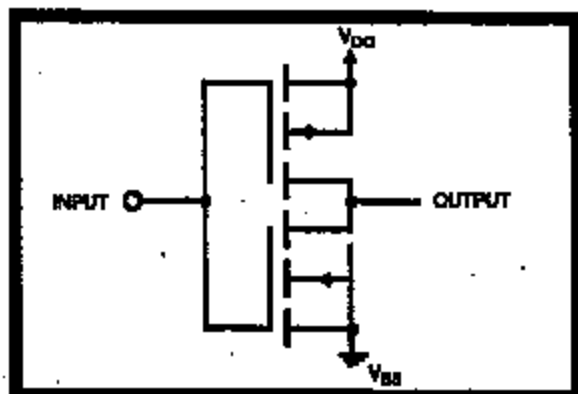

Figure 4 - Typical Output Circuit
Unfortunately, it appears that this packaging method results in the formation of a diode between the n-type Ag-filled epoxy glue layer and the low doped p' substrate, see fig. 4 and 6. Note that diode does not behave like a real Ag-Si Schottky diode. Fig. 6 shows that the diode forward voltage is >0.7V. Given the barrier height for an Ag to p-type silicon metal-semiconductor contact of 0.54 eV at 23°C [2], a good Ag-Si(p-type) Schottky diode should exhibit a much lower forward voltage than observed here. Furthermore, we find that the n-type
Ag-filled glue layer also can act as the emitter of a parasitic NPN transistor (T4 in fig. 4) between the frontside and backside of the die where the p' substrate acts as the base and the deep buried-N (BND) isolation of the V-PNP transistor as collector, see fig. 4. Fig. 6 shows the bipolar gain of this transistor as a function of the emitter current for a small test structure. Despite the very thick base ( $\approx 375 \mu\text{m}$ ), the NPN gain  $h_{FE}$  ranges from  $10^4$  to  $10^3$  at 25°C. Note that the  $h_{FE}$  scales with the collector area; in real circuits  $h_{FE}$  values up to 0.5 have been observed. Note that both the diode and the NPN characteristics are not well controlled as these are influenced by many parameters as e.g. the surface roughness of the backside of the silicon die, the thickness of native oxide layers on the silicon backside, the electron minority carrier lifetime in the p' substrate, the thickness of the epoxy glue, the distribution and concentration of Ag-fillers in the epoxy glue. As a result, a large spread is observed in both the diode (KV) curves, see fig. 6, as well as the NPN current gain ( $h_{FE}$ ) characteristics, see fig. 7, depending on the specific process flow. The fact that the NPN gain in fig. 7 increases with injected current is characteristic for metal-semiconductor junctions where the ratio of minority injection (electrons in this case) increases with current due to the enhancement of the drift-field component, which becomes much larger than the diffusion current [2].
As shown in fig. 4, the parasitic NPN transistor T4 forms in combination with the V-PNP transistor T1 a thyristor between the frontside and the backside of the die. As the parasitic V-PNP has high gain, the thyristor loop gain is larger than 1 and thus latchup can occur.
A typical ISO-CMOS output driver contains one N-channel MOSFET with its source tied to  $V_{SS}$  and one P-channel MOSFET with its source tied to  $V_{DD}$ . The drains of the two transistors are connected together to form the output and the gates are commoned to form the input (Fig. 4). The fabrication of these transistors in close proximity results in the formation of a parasitic SCR connected directly across the power supply rails. When triggered, this SCR presents a low impedance to the power supply causing excessive current to flow. This situation is potentially destructive, resulting in damage to bond wires or metal supply tracks on the die due to localized overheating. The SCR is formed as follows. A vertical NPN transistor results from the fabrication of the N-channel device. The N-substrate serves as the collector and is biased at  $V_{DD}$ . The P-well acts as the base and the source and drain N-diffusions are the emitters of the transistor. One emitter is tied to  $V_{SS}$  and the other to the output. A wide base lateral PNP transistor is formed when a P-channel device is located close to a N-channel transistor. The P-channel source and